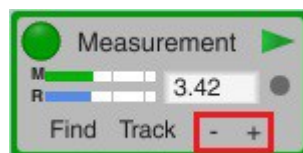

Figure 23: Adjusting the Propagation Delay to avoid truncation on the phase trace.
5.- Adjust the levels for the two input channels on the sound card so that they have the same unclipped level. The input VUmeters are the ones labelled M and R (which stand for "Measurement" and "Reference") and can be seen in green and blue in figure 23. Yellow input VUmeters will still produce a good measurement. The *Measurement Signal* goes into the left channel (labelled "M"), and the *Reference Signal* goes into the right channel (labelled "R").